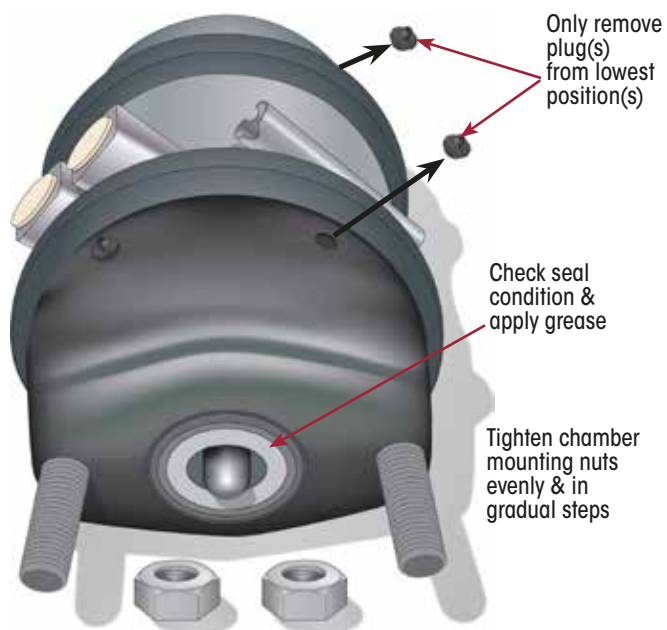

Figure 129: Disc Brake Chamber Installation
1. Ensure that only the lowest drain hole in the brake chamber has the rubber plug removed to minimise ingress of any contaminants. On installation, remove the lower housing plug from each chamber. This means that if it is a dual park/emergency brake chamber then two plugs will need to be removed. Failure to remove these plugs will make the calliper release slowly, which will cause brake drag and excessive pad wear. Refer Figure 129.
3. Ensure the brake chamber to calliper seal is in good condition. Apply a smear of grease to this seal, before fitting chamber, to help protect calliper against contaminants. Refer Figure 129.
5. Torque the brake chamber nuts evenly and in steps to ensure correct mounting and engagement of piston rod and ball cup. Uneven tightening can cause the calliper to cock over and not sit flush, while under or over torquing can cause distortion or movement that will allow for water leaks. Refer Figure 129.